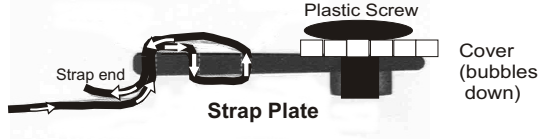

Fig. 10
C. Choose EITHER Fig. 10 OR Fig. 11 based on your pool shape.
For Reel Systems Placed at Pool End (Rectangular Pools) (Fig.10)